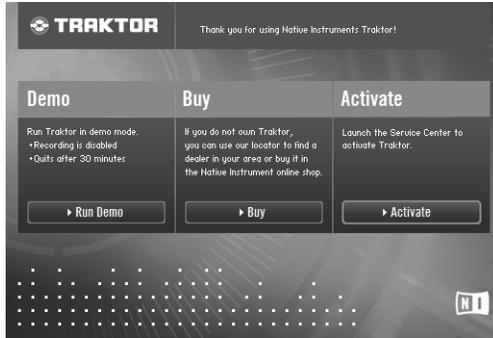

Figure 5.42
1. To activate Traktor, click **Activate**. (Figure 5.42)